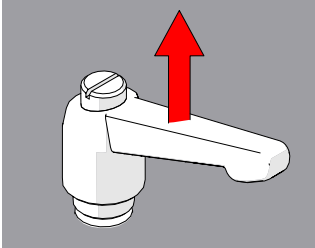

Fig. 64 - Pull ratchet handle
1. Pull the ratchet lever away from the base to which it is connected (*Fig. 64*).